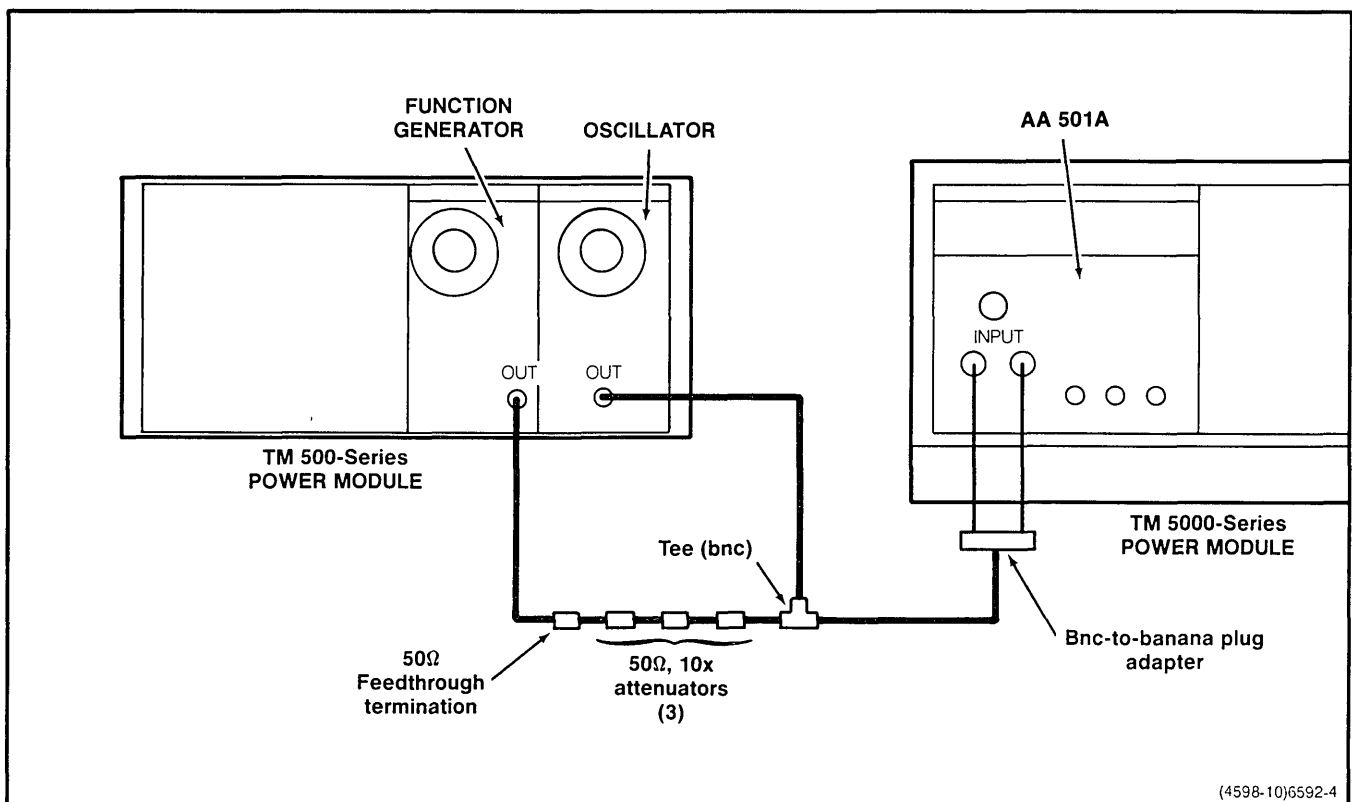

Fig. 4-3. AA 501A check/adjust step.
a. Connect test equipment as shown in Fig. 4-3.